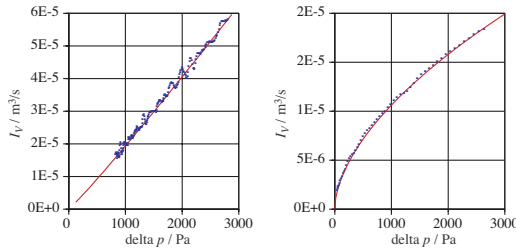

Figure 1.13: Flow characteristics for laminar flow (oil in a pipe, left) and for turbulent flow (water in a pipe, right). I_V is the symbol for volume current.
55. Consider the type of flow characteristic found for oil flowing in a pipe as in Fig. 1.13 (in the left diagram). What do you expect the characteristic curve to be for a pipe twice as long as the one used in the experiment? What do you think the characteristic curve should be if the pipe has a larger radius?
58. For a given situation of oil between two plates (Fig. 1.14), how strongly does one have to pull if one wants to move the upper plate twice as fast? Compare this relation to the flow characteristic of oil through a pipe (Fig. 1.13).
60. By how much does a turbulent flow change when you double the pressure difference (Fig. 1.13, right)?
70. Water is to be pumped through a horizontal pipe with the help of a pump whose characteristic looks like the one shown in Fig. 1.16. The flow of water through the particular pipe has a characteristic relation like the one seen in Fig. 1.13 (on the right). How can you use the characteristics to graphically determine the magnitude of the current of water established by the pump?